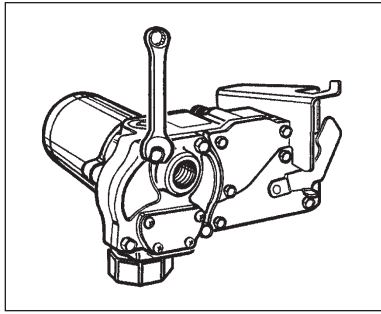

Figure 4
- Remove the gear coverplate. (Figure 4)